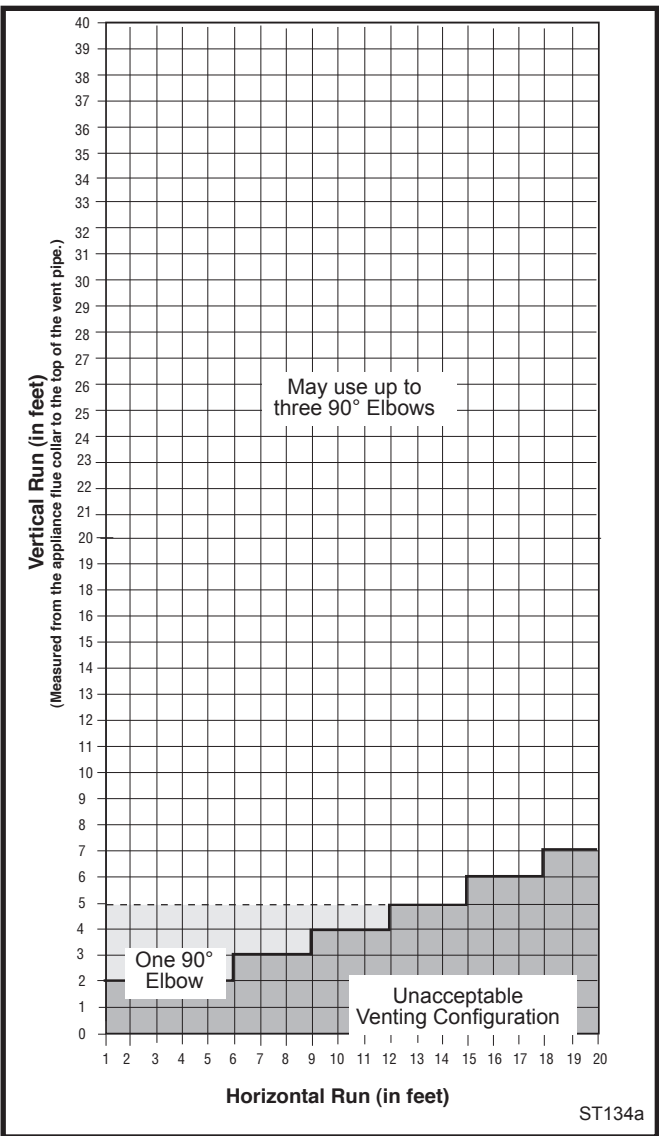

Fig. 7 Horizontal vent termination window.
The vent must rise vertically a minimum of 24" (610mm) off the top of the unit, before the first elbow. The horizontal run may extend up to 20' (6 m) and include a vertical rise of up to 40' (12 m). (Fig. 7) Horizontal termination must also meet the criteria shown in Figures 9 through 11.
- Approved vent systems must terminate above and including the heavy line in Figure 7.